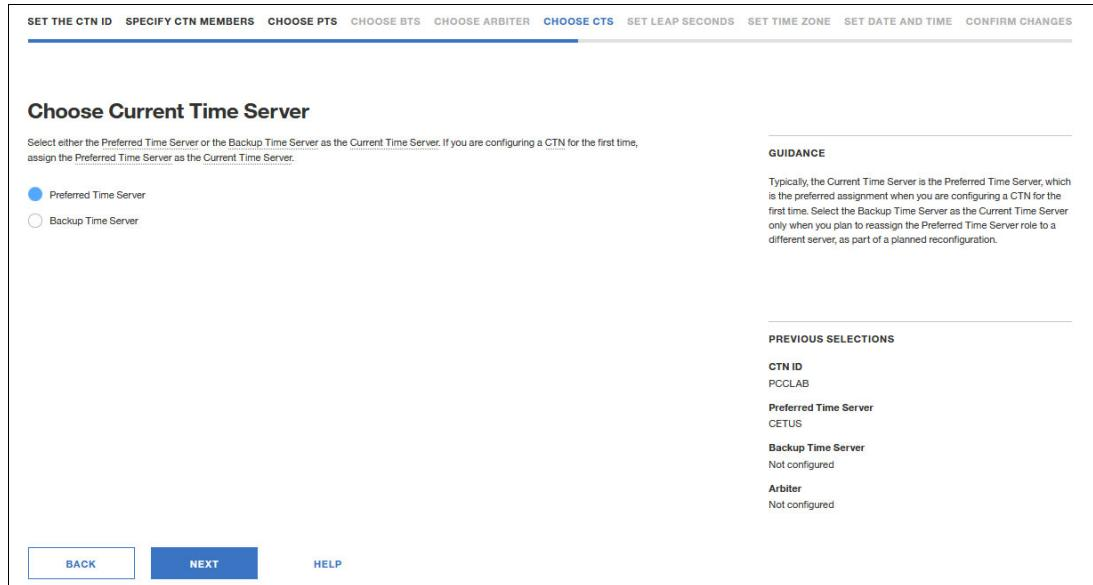

Figure 8-37 Choose Current Time Server
6. The **Choose Current Time Server** window opens. We select **CETUS** for CTS. Click **NEXT** to continue (Figure 8-37).